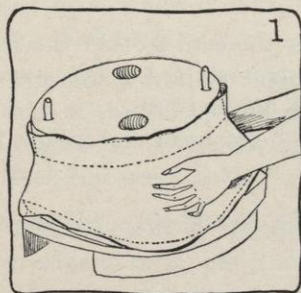

FIG. 1.
- b. Smooth down as quickly and as gently as possible to get the general swing of the brim and to see if the felt will reach (see Figure 1).